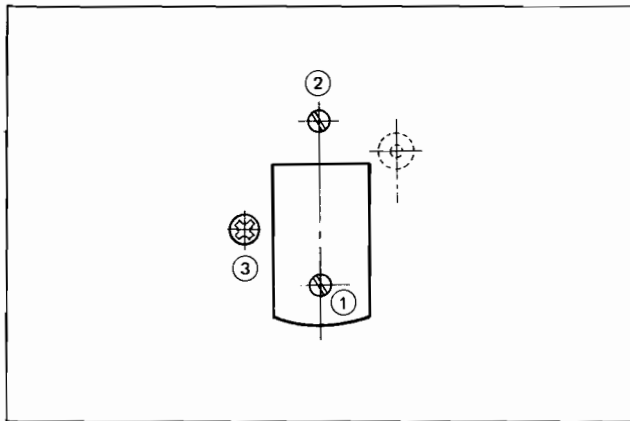

Fig. 5-7. Arrangement of AE head adjusting screw
1. Insert the extension tool into CN6 of the HBU assembly and then insert CN6 of the analog harness into the extension tool (R).
2. Turn the screw 3 to adjust using the azimuth tape A. (Refer to Figs. 5-7 and 5-10.)